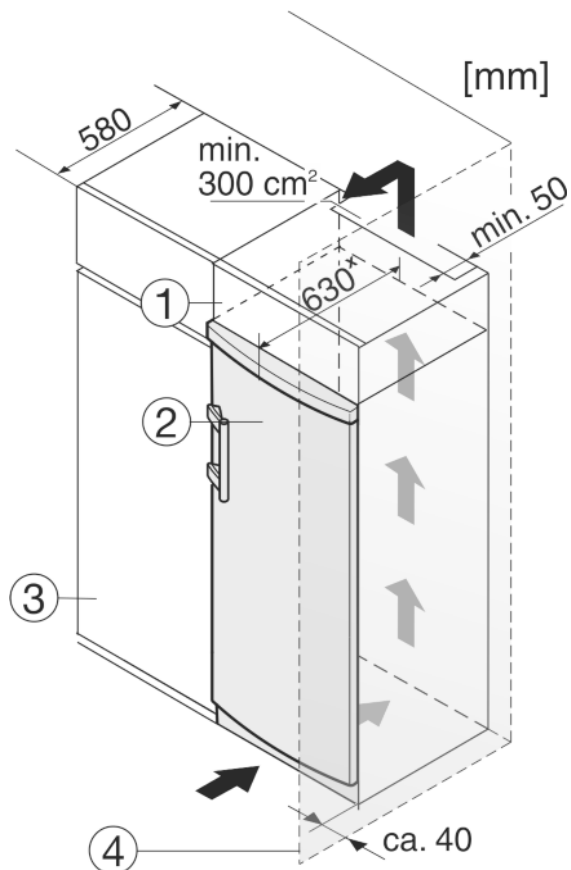

Fig. 11
The appliance can be built into kitchen units. A top cupboard Fig. 11 (1) can be added above the appliance in order to bring the appliance Fig. 11 (2) up to the height of the fitted kitchen units.
If you are integrating the appliance into a kitchen unit (max. depth 580 mm) you can install it right next to the kitchen cabinet Fig. 11 (3). The appliance measures 34 mm \* at the side and 50 mm \* at the centre in relation to the front of the kitchen cabinet.
If you are installing the appliance with the hinges next to a wall Fig. 11 (4), the distance between the appliance and the wall must be at least 40 mm. This is how far the handle protrudes when the door is open.